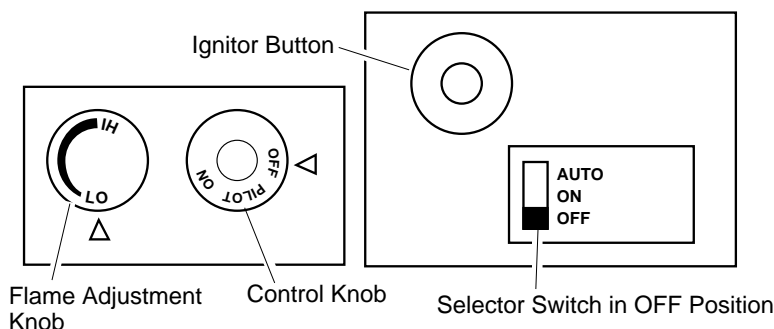

Figure 25 - Control Knob and Ignitor Button Location (Shown as Supplied, No Control Options)
2. Install fireplace screen by slipping notches of fireplace screen over screws on front of fireplace (see Figure 25).